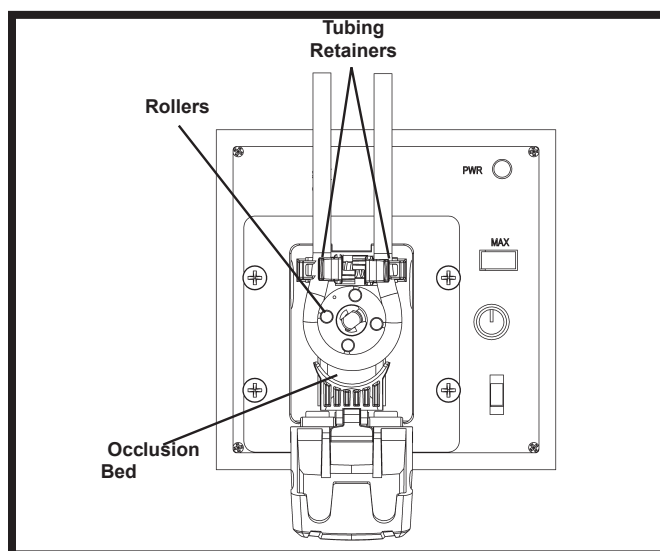

Figure 4. Occlusion Bed in Unlatched Tube Loading Position
1. When the door is opened the Occlusion Bed moves back away from the pump rollers, Figure 4.
2. Holding both ends of the tubing in one hand, form a loop and wrap the tubing around the **Rollers**, Figure 4, making sure that the tubing is centered on the rollers and keeping the free ends of the tubing outside of the **Hi Vjb[F YU]b Yfg**, Figure 4
4. Insert the tubing into one of the **Tubing Retainers**, Figure 4 by moving the retainer toward the center of the pump and placing the tubing in the v-notch of the retainer. Release the retainer so that the tubing is secured in place. Repeat for the other tubing retainer. The tubing should be stretched slightly around the rollers so that there is no excess tubing between the rollers and the retainers – any excess can be removed by pulling slightly on the tubing outside of the pump.